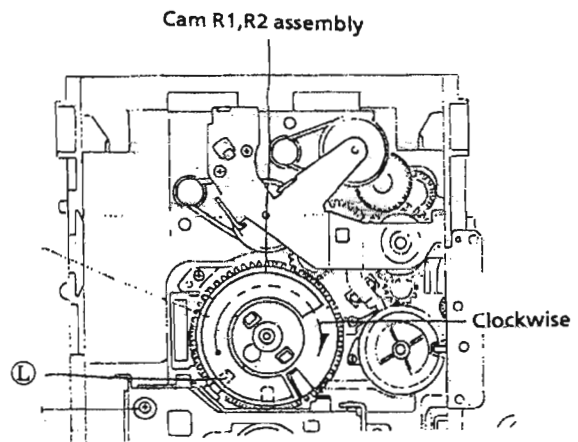

Fig. 2-11
1. Remove a screw ① securing the CD servo board.(Fig. 2-11-a)
2. Press the hook and release it to remove the CD servo board.(Fig. 2-11-a)
1. If CD mech. is removed without disassembling CD mech. ass'y, rotate the Cam R1, R2 ass'y clockwise to set the CD mech. ass'y's shaft(L) as shown in Fig. 2-11.